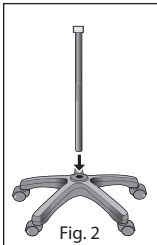

Fig. 2
2. Insert the black pole into the base; smaller end down, open end up, Fig 2.